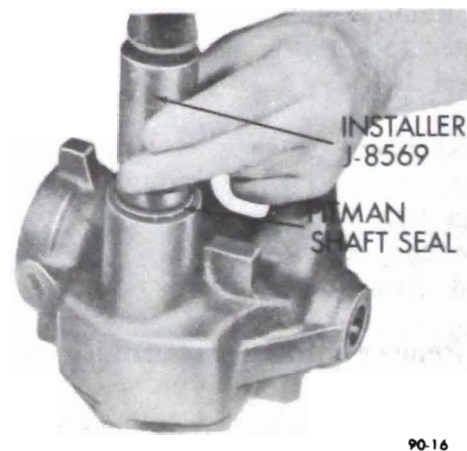

Figure 90-9 Installing Pitman Shaft Seal
8. To protect pitman shaft seal from damage, cover shaft splines with masking tape. Slide new seal into place and seat seal flush with surface of housing using Installer J-9540. See Figure 90-9.